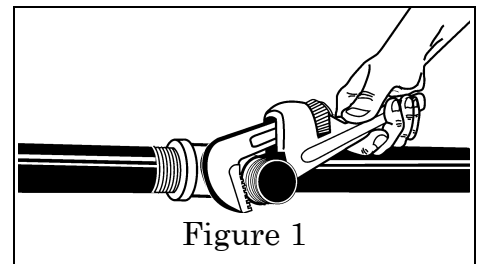

Figure 1
Step 1: Connect the upstream inlet (nipple) to the branch line using the wide, NPT threads of the nipple. *Figure 1.* Apply a nonhardening pipe joint compound or Teflon tape to the NPT male threads of the nipple. Tighten firmly with pipe wrench for leak proof connection.